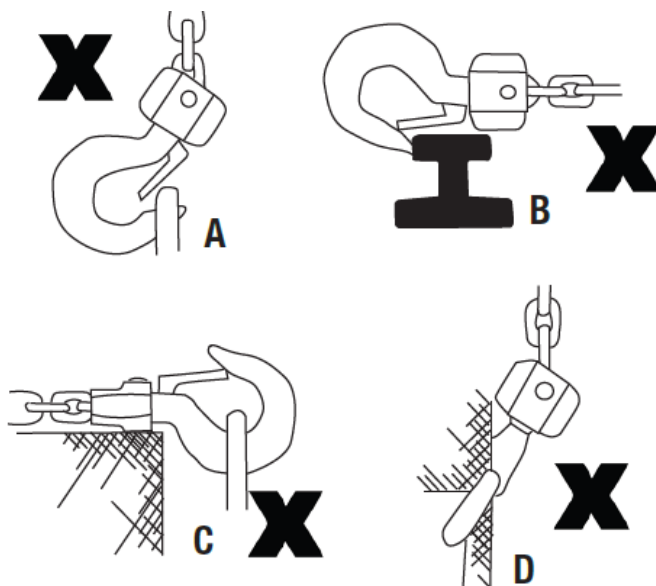

Figure 2
- Never load the hook in front of the safety bar (Fig. 2-A).
- Never load the hook tip (Fig. 2-B).
- Never load the hook of the centre line (Fig. 2-C).
- Never load the hook sideways (Fig. 2-D).